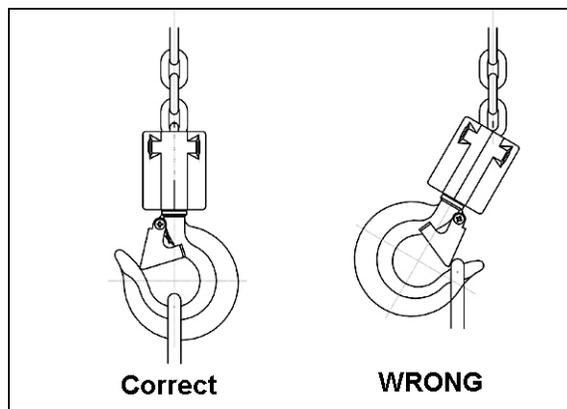

Figure 10
2. Place load sling or chain in the center of the bottom hook, making sure the safety latch is secure. **Never load the hook in front of the safety latch.** See Figure 10.